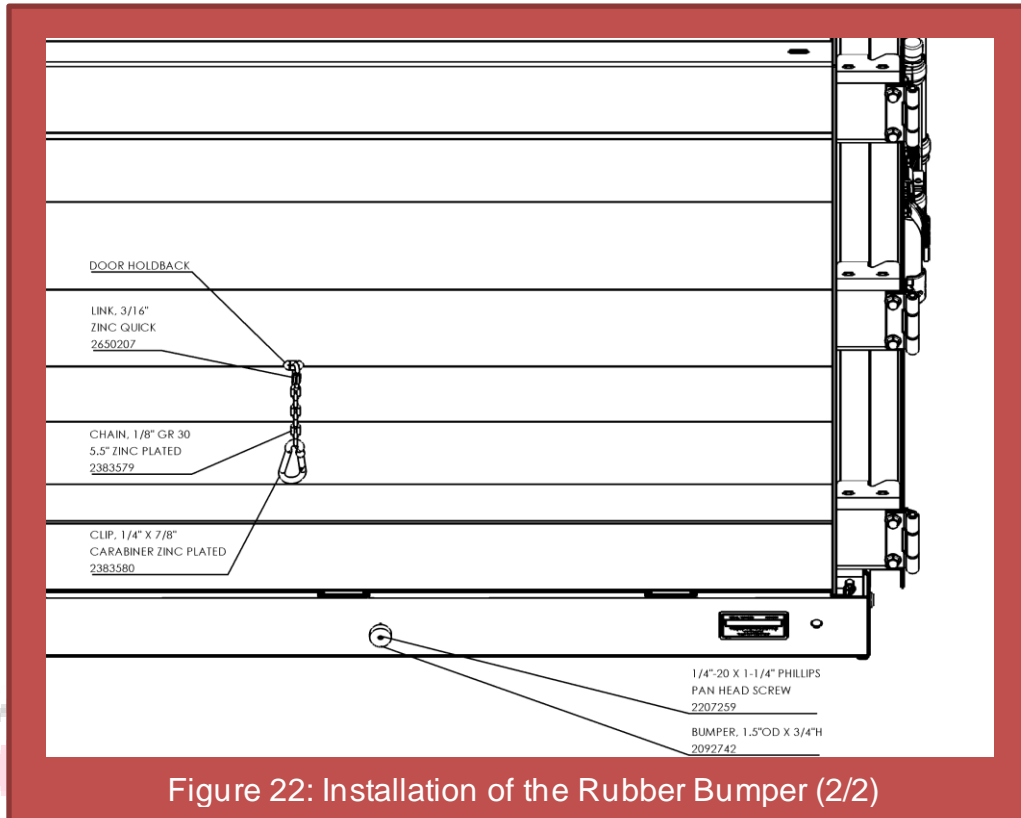

Figure 22: Installation of the Rubber Bumper (2/2)
- b. Next, drill a 5/16" hole in the side rail, at a height of 1.5" above the bottom of the side rail. Refer to **Figure 21** and **Figure 22**.